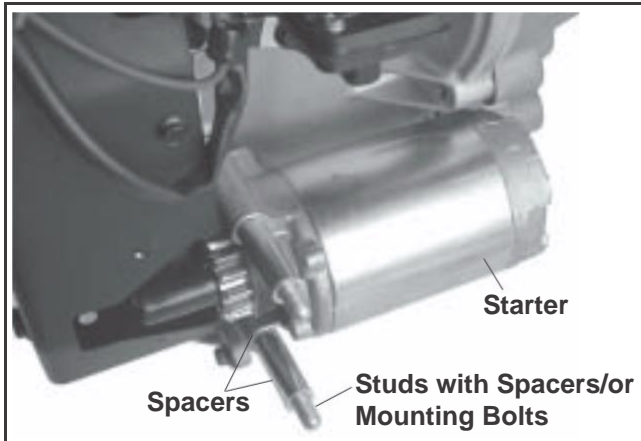

Figure 11-47. Installing Electric Starter.
2. Install starter with spacer and ground lead (if used) on the studs, or install starter using the mounting bolts as originally equipped. See Figure 11-47.